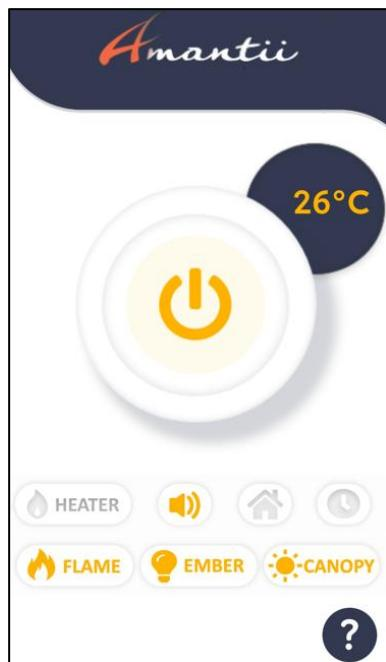
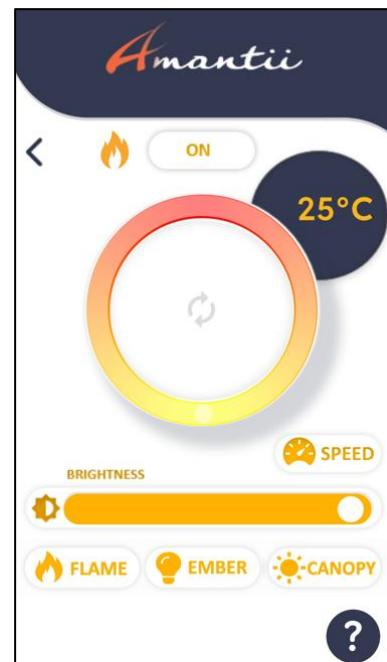

FIG.8
FIG.9
6. Now you are in the interface like FIG.8. You can operate the fireplace via Wi-Fi (FIG.8/ FIG.9/ FIG.10/ FIG.11).